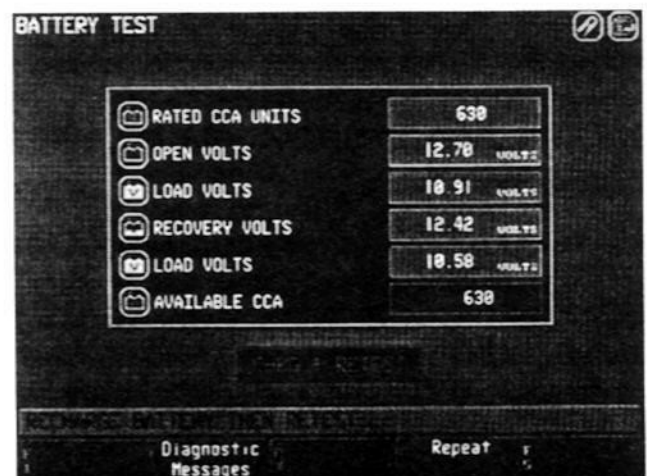

Figure 3-2
2. The test will run and the results screen will appear (see Figure 3-2).